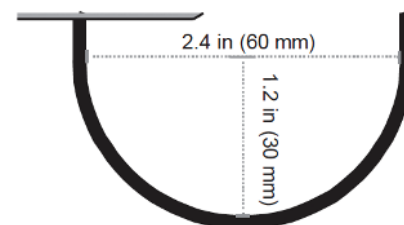

Figure 4. Minimum cable bend radius
- The cables must have a minimum bending radius of 1.2 in (30 mm) to avoid damage to the insulation (refer Figure 4).